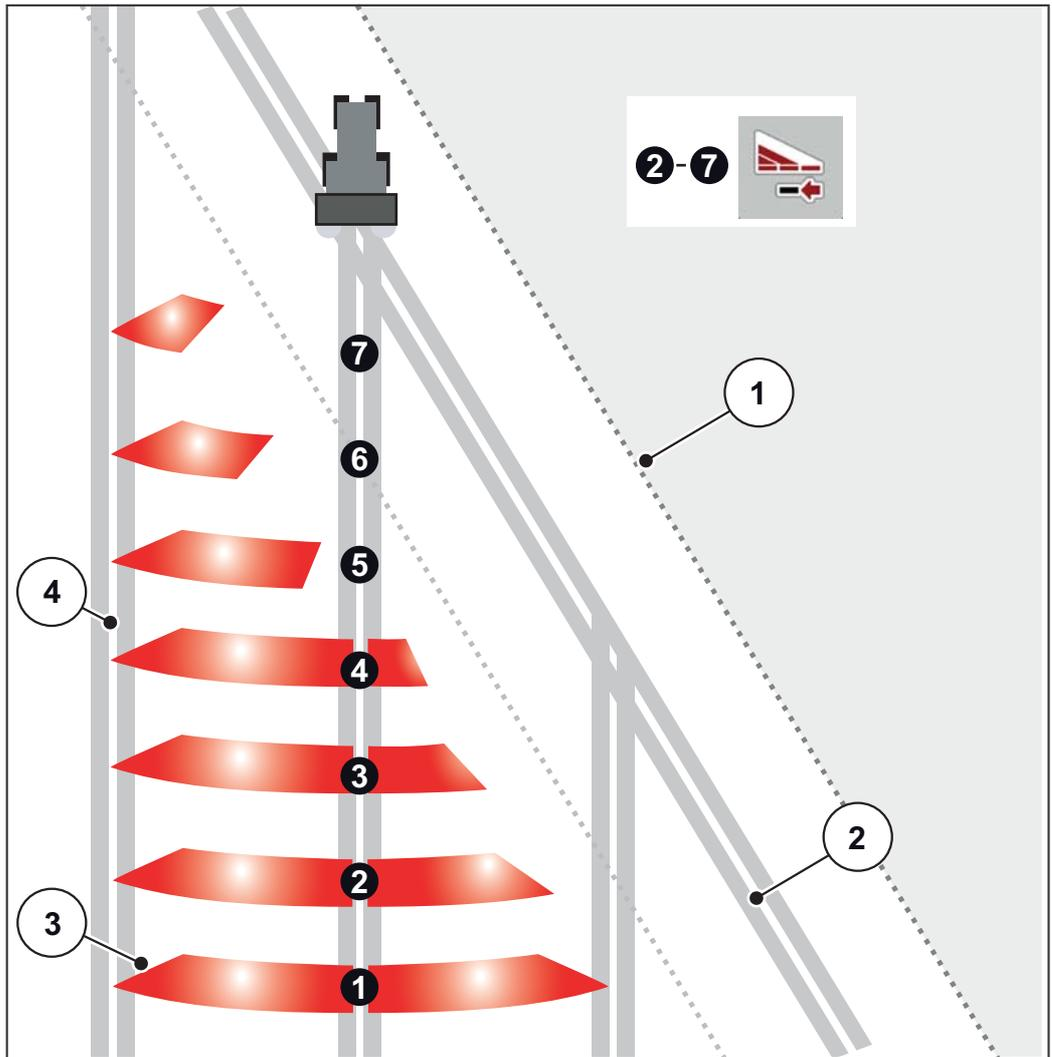

Figure 5.2: Automatic section control
- Section control is possible from the outside to the inside or vice versa. See Figure 5.2.